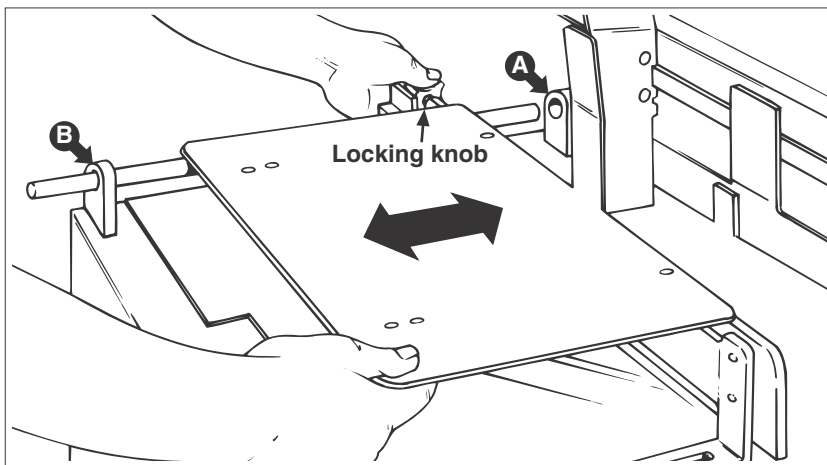

Figure 2-2. Back Jogging Plate/Back Hopper Guide Removal
1. Loosen each of the setscrews at the two shaft housing assemblies A and B (Figure 2-2).